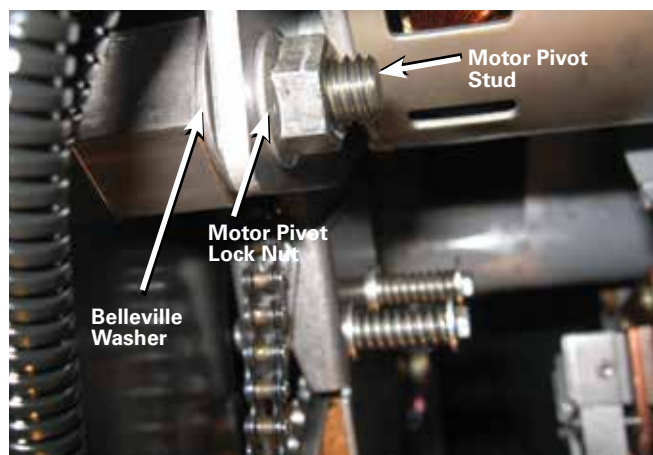
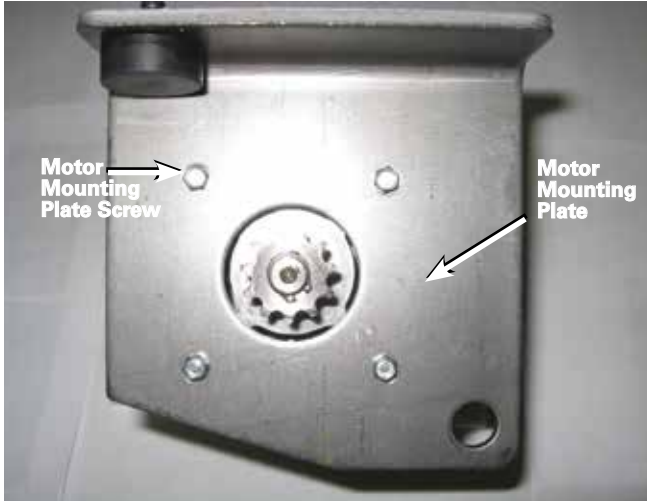
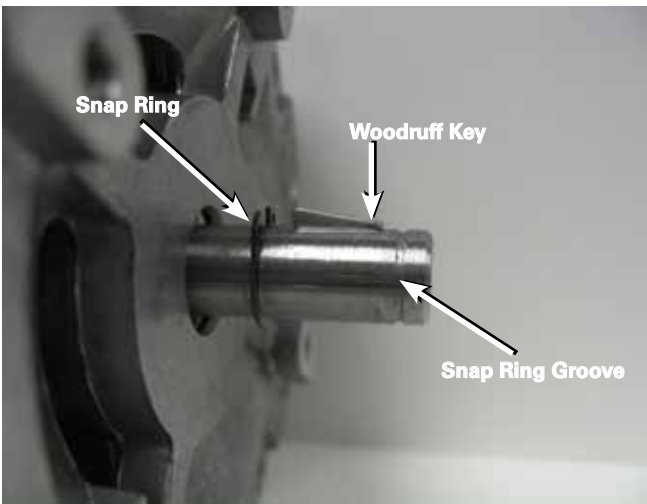

Figure 6. Motor pivot stud design.
Figure 10. Removal of the motor plate.
Figure 11. Woodruff key placement.
- If the tap-changer has a motor pivot stud design with a lock nut as shown in Figure 6, remove the motor pivot stud lock nut with a 9/16" socket on a ratchet. Pull the motor off of the motor pivot stud; make sure the Belleville washer stays on the motor pivot stud and does not fall into the tank. Set the motor in the motor relief area of the molded back panel. Refer to Figure 10.
- Remove the four screws securing the motor to the motor mounting plate using a 1/4" socket on a ratchet. Remove the motor mounting plate from the old motor. Refer to Figure 10.
- The new motor kit (Part # 57A636751A100A) has a 12 tooth sprocket for the QD8 tap-changer and an 11 tooth sprocket for the QD5 tap-changer. The motor shaft has two snap ring grooves and a woodruff keyway. Install a snap ring with a snap ring pliers into the inner snap ring groove behind the woodruff keyway. Using a pliers, put the woodruff key into the keyway with the woodruff key tilted down towards the end of the motor shaft. Refer to Figure 11.
Note: If you have the motor pivot stud design as shown in Figure 10, follow Step 13. If you have the motor pivot bolt design as shown in Figure 11, follow Step 14.